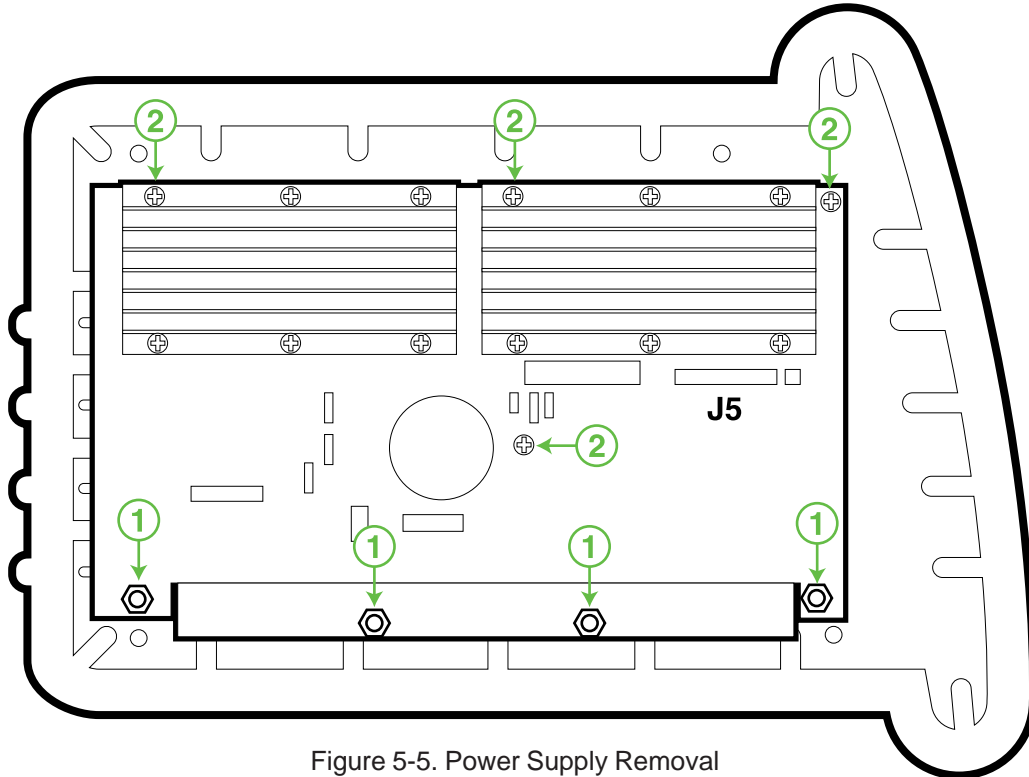

Figure 5-5. Power Supply Removal
3. Referring to Figure 5-5, remove the four (4) nuts (Figure 5-5, ref. 1) and four (4) screws (Figure 5-5, ref. 2) securing the Power Supply to the to the right side cover.